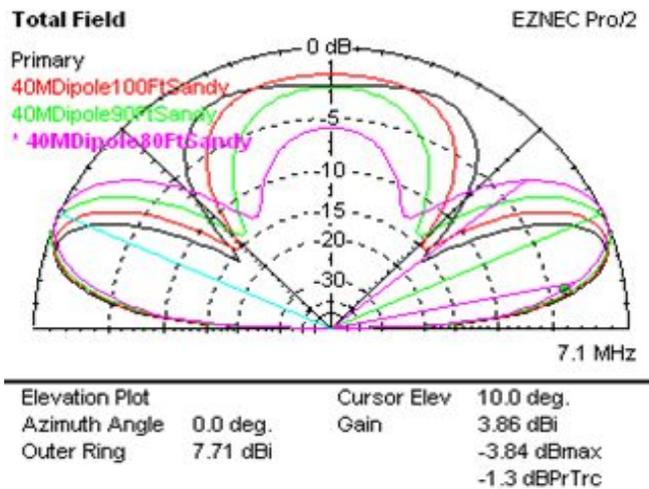
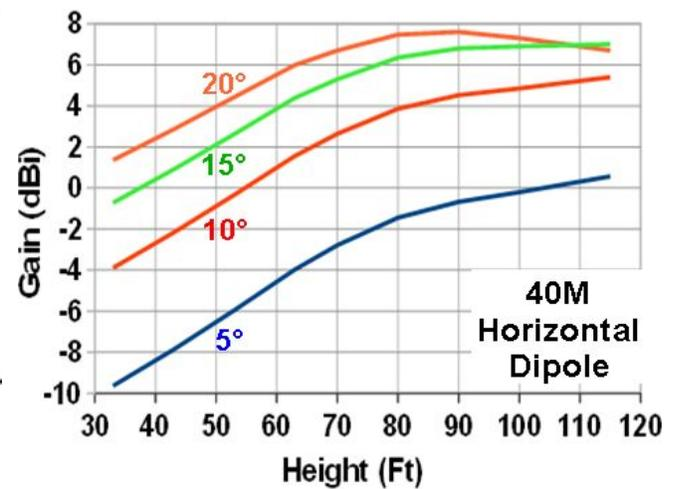

Fig 32 - 40M Horizontal Dipole at 80 Ft, 90 Ft, 100 Ft, 110 Ft, Sandy Ground
Fig 33 - Another Look At The Same Data
A careful study of Fig 25 suggests that another view of the data might be worthwhile. Fig 32 expands the data set of Fig 25 to 110 Ft. Fig 33 provides another very useful view of the same data. I took data points from each antenna height curve for vertical elevations of 5°, 10°, 15°, and 20°, entered them in a Quattro Pro spreadsheet, and plotted it to produce Fig 33. The slopes of these curves, which are essentially parallel to each other below about 80 ft, allows us to define a “figure of merit” for the height of a horizontal 40M antenna for low radiation angles.
**What is Height Worth On 40M?** Fig 33 clearly shows that, for all angles below about 25 degrees, 10 ft of added height is worth about 1.9 dB on 40M between 20 ft and 70 ft. The advantage of additional height is much less above 70 ft ( $\lambda/2$ ). Raising a 40M dipole from 33 ft ( $\lambda/4$ ) to 67 ft ( $\lambda/2$ ) is worth about 6 dB at vertical angles below about 20 degrees; going up to 120 ft ( $.433\lambda$ ) is good for another 3 dB for radiation angles below about 15 degrees.
**Performance Difference:** From Fig 33, a horizontal antenna would be 2 dB louder at 120 ft at low angles than at 70 ft. If the gain of the 40 Yagi Joe is considering is 3.5 dBd, and we mount it at 70 ft, it will be 1.5 dB louder than the dipoles at 120 ft.